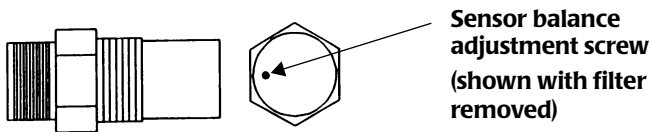

Figure 12 – Balance adjustment screw locations
4. Turn the balance screw on the sensor **COUNTERCLOCKWISE** until the **BALANCE** light goes out. The location of the balance adjustment screw is shown in Figure 12.